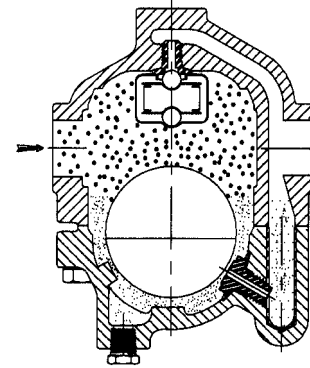

FIGURE 7\*
**Figure 7:** As the condensating rate decreases, the float lowers, reducing flow through the trap. The buoyancy of the float will maintain a liquid level seal above the lower seat ring, preventing the escape of steam. As with inverted bucket traps, float and thermostatic traps rely on a fixed force (the buoyancy of the float). Discharge orifices must be sized by differential pressure. Placing a low pressure float and thermostatic trap in high pressure service will result in the trap locking up. A contrasting characteristic of both the float and thermostatic and inverted bucket is the discharge cycle. A float & thermostatic trap tends to continuously discharge condensate while the inverted bucket trap discharges condensate in cycles.